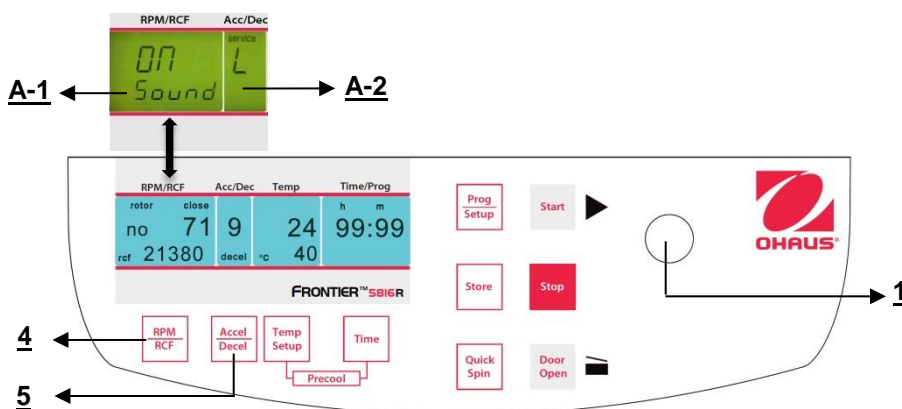

Figure. 32
Proceed as described under point 4.1.1 to enter this program mode and then press the key "Accel/Decel" (5). In the display "Acc/Dec" (A-2) the word "Service" flashes. Now select the letter "L" with the adjusting knob (1). As a result, the words "On Sound" appears in the display "RPM | RCF" (4). If you press the key "RPM | RCF" (4) now, the word "On" flashes and you can switch off the sound with the adjusting knob (1) (See figure 32).